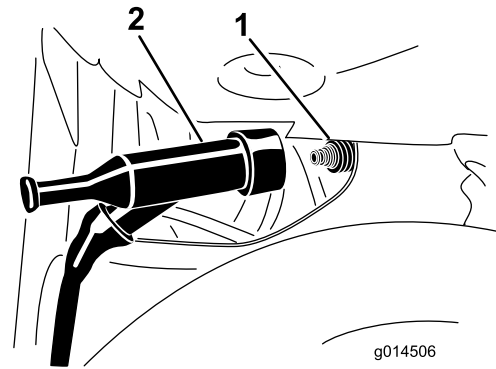

Figure 28
3. Pull the spark-plug wire off the terminal of the spark plug (Figure 28).
4. Install the spark-plug wire pushing the wire onto the terminal of the plug (Figure 28).